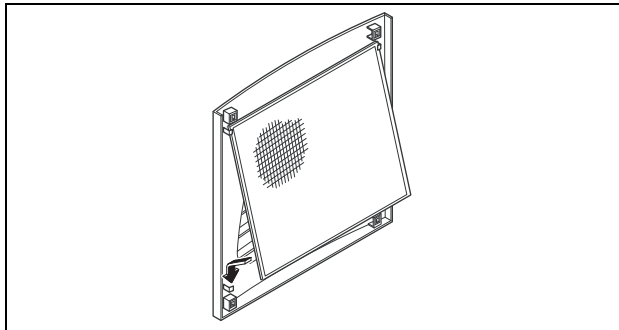

Fig. 16: Install the filter mat
- Insert the filter mat into the louvred grille as shown in Fig. 16 and push it back onto the enclosure.